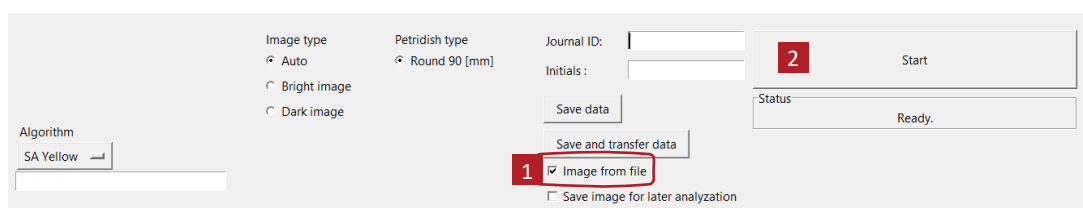
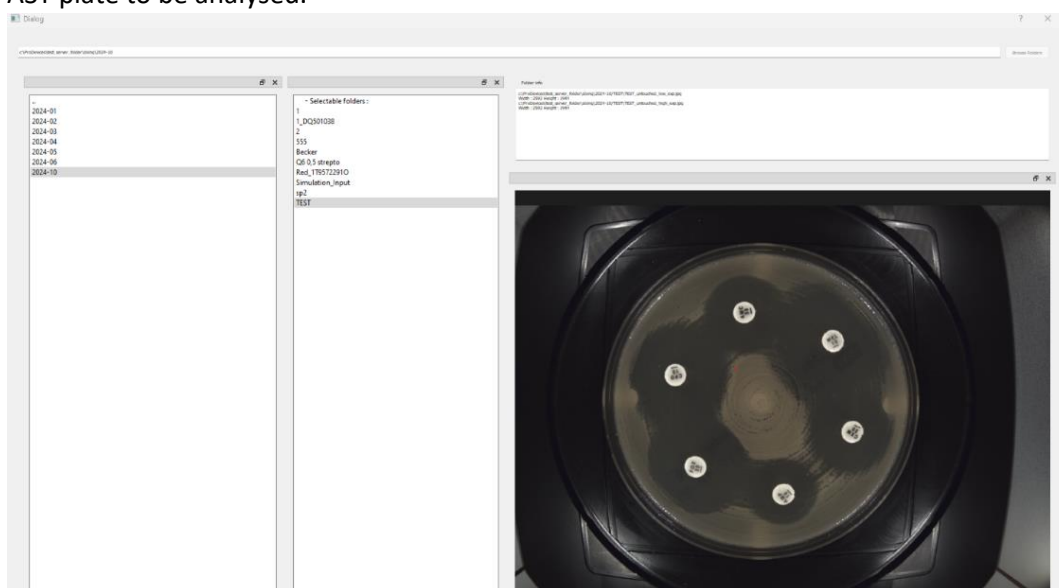

Figure 21 – Function "Image from File"
Figure 22 – "Selectable Folders" with "Image from File"
4. Click "Image from file", see **1** in Figure 21.
5. Click the START button, see **2** in Figure 21, or press **F5** (some PC's Fn+F5) and a list of the saved plates appear. Under "Selectable Folders", see Figure 22, click on the Journal ID of the AST plate to be analysed.